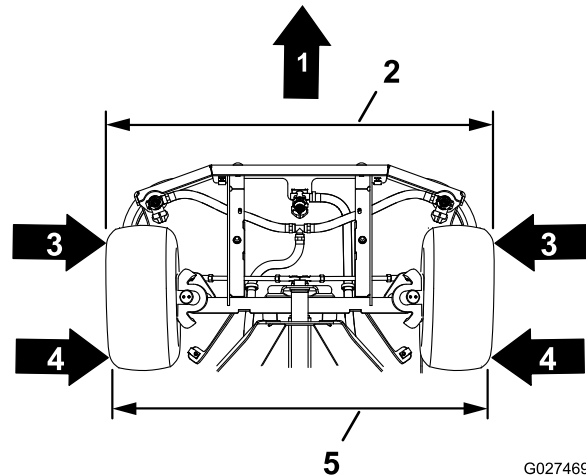

Figure 78
4. Measure the distance between the 2 front faces of the front tires as shown in Figure 78.
5. Measure the distance between the 2 rear faces of the front tires as shown in Figure 78.